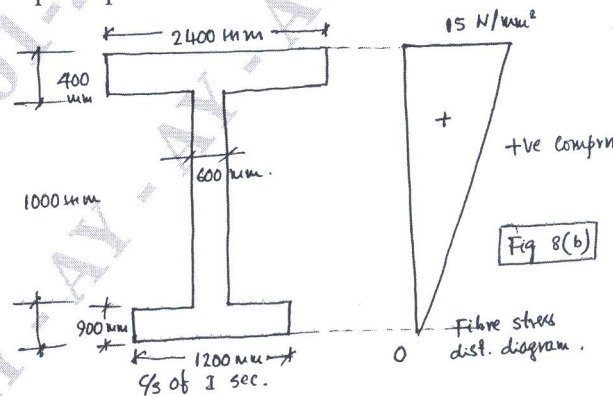

Fig.Q8(b) (12 Marks)
- b. A prestressed concrete beam of unsymmetrical section is shown in Fig.Q8(b); the fibre stress distribution diagram 15 N/mm2 at the top and zero at the bottom. Total vertical shear force is 2500 kN. Compute the principal tension at the centroidal axis at the support.